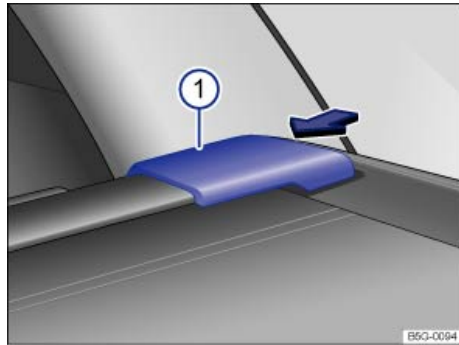

Fig. 92 In the luggage compartment: Removing the luggage compartment cover.
- Push the retainer for the luggage compartment cover ⇒ fig. 92 \(1\) in the direction of the arrow.